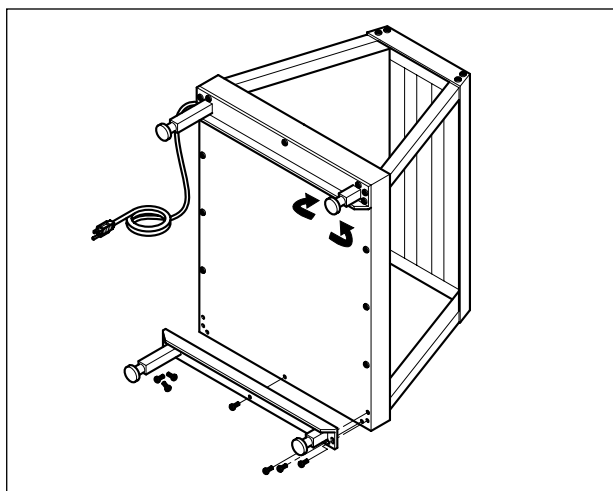

Figure 13. Slant Leg Kit - GRHD Models without Humidity
3. Remove screws from bottom right side and bottom left side of unit. See Figure 13.